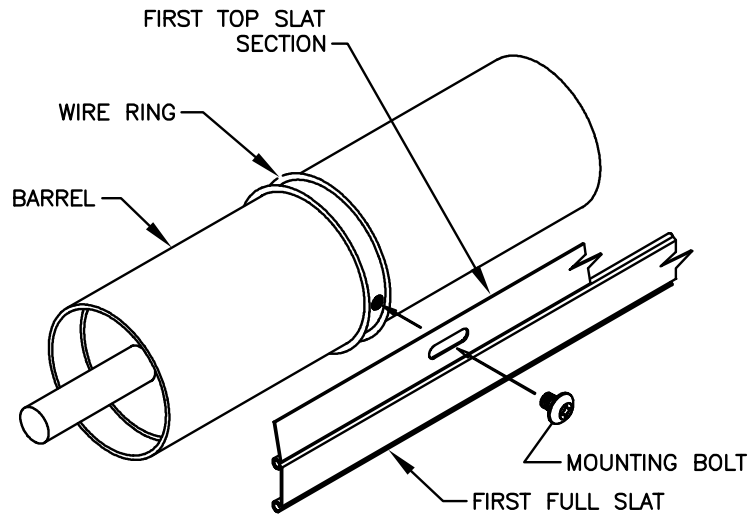

FIG. 9
- 1) Slide the wire rings over the end of the barrel and align them with the slat mounting screw hole as shown in Fig. 9 below.